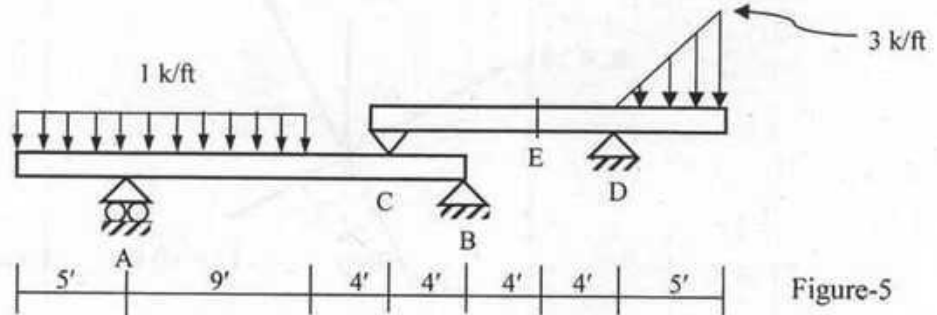

Figure-5
5. In the figure-5 shown below, calculate the reactions at supports A, B and D and also calculate the axial force, shear force and bending moment at E. Assume all the members are weightless.